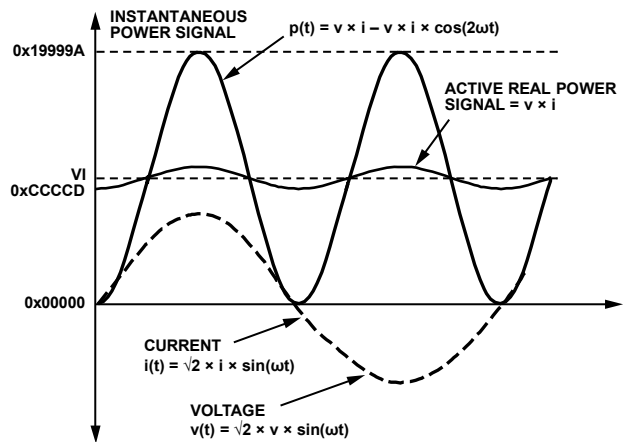

Figure 64. Active Power Calculation
Note that the active power is equal to the dc component of the instantaneous power signal $p(t)$ in Equation 11, that is, VI . This is the relationship used to calculate active power in the ADE7116/ADE7156/ADE7166/ADE7169/ADE7566/ADE7569. The instantaneous power signal $p(t)$ is generated by multiplying the current and voltage signals. The dc component of the instantaneous power signal is then extracted by LPF2 (low-pass filter) to obtain the active power information. This process is illustrated in Figure 64.
The ADE7116/ADE7156/ADE7166/ADE7169/ADE7566/ADE7569 also incorporate an active power offset register (WATTOS[15:0], Address 0x20). It is a signed, twos complement, 16-bit register that can be used to remove offsets in the active power calculation (see Figure 64). An offset can exist in the power calculation due to crosstalk between channels on the PCB or in the IC itself. The offset calibration allows the contents of the active power register to be maintained at 0 when no power is being consumed.
As mentioned in the Active Energy Calculation section, the discrete time sample period (T) for the accumulation register is 1.22 μs (5/MCLK). With full-scale sinusoidal signals on the analog inputs and the WGAIN register (Address 0x1D) set to 0x000, the average word value from each LPF2 is 0xCCCCD (see Figure 64). The maximum positive value that can be stored in the internal 49-bit register is 2⁴⁸ (or 0xFFFF,FFFF,FFFF) before it overflows. The integration time under these conditions when WDIV = 0 is calculated in the following equation: